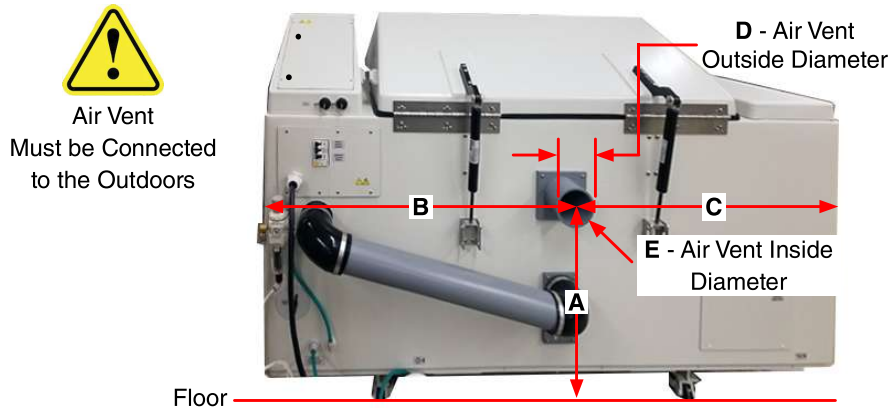

Figure 6.7a: Vent location.
- Air venting from the chamber is done via a 114 mm (4.5 ") outside diameter vent tube (Figure 6.7a).